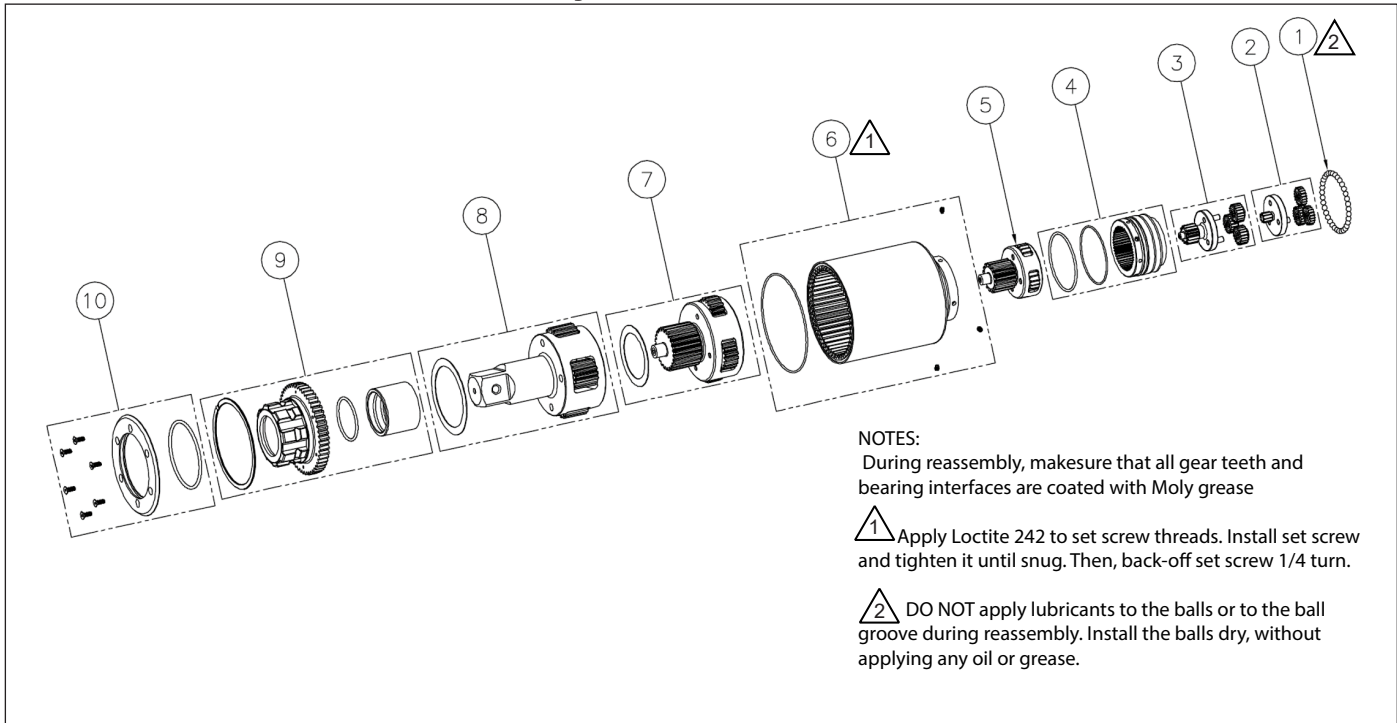

Figure 11: TW6000SR Gearbox Assembly
9.7.1 Table of Parts (Figure 11)